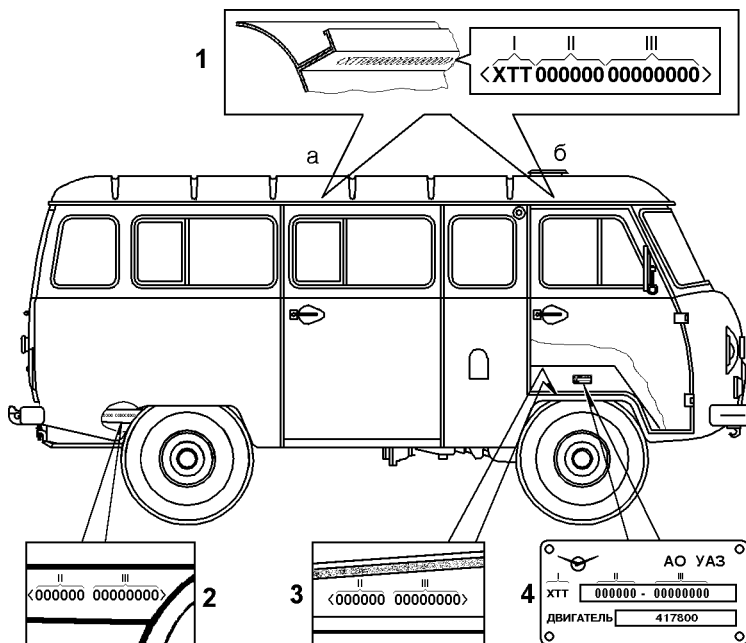

Fig. 9. Automobile marking:
**The identification number** (Fig. 9) is indented on the nameplate and on the roof channel (on the automobiles YA3-2206, YA3-3962 and their modifications - at two points “a” and “б”; on the automobiles YA3-3303, YA3-3741, YA3-3909, YA3-33036, YA3-39094, YA3-39095 and their modifications - at one point “б”).